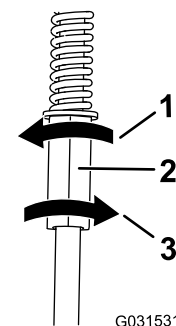

Figure 52
4. Rotate the left control rod in quarter-turn increments until the machine tracks straight (Figure 52).